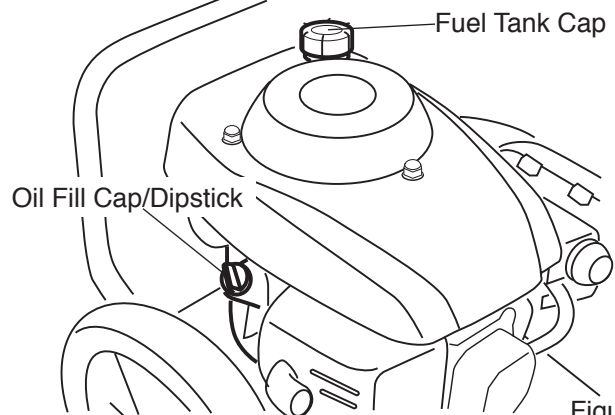

Figure 4
**NOTE:** When adding oil, frequently insert the oil fill cap/dipstick and check the amount of oil in the engine. **DO NOT OVERFILL.** (See Figure 4)